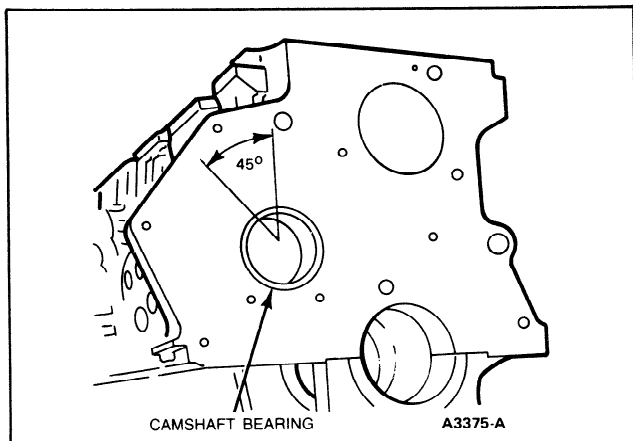

FIG. 40 Camshaft Bearing Position
- Install new camshaft bearings. Make sure that the oil holes in the bearings and cylinder block are aligned. The splits in the bearings should be upwards and outwards at 45 degrees to the vertical (Figure 40).